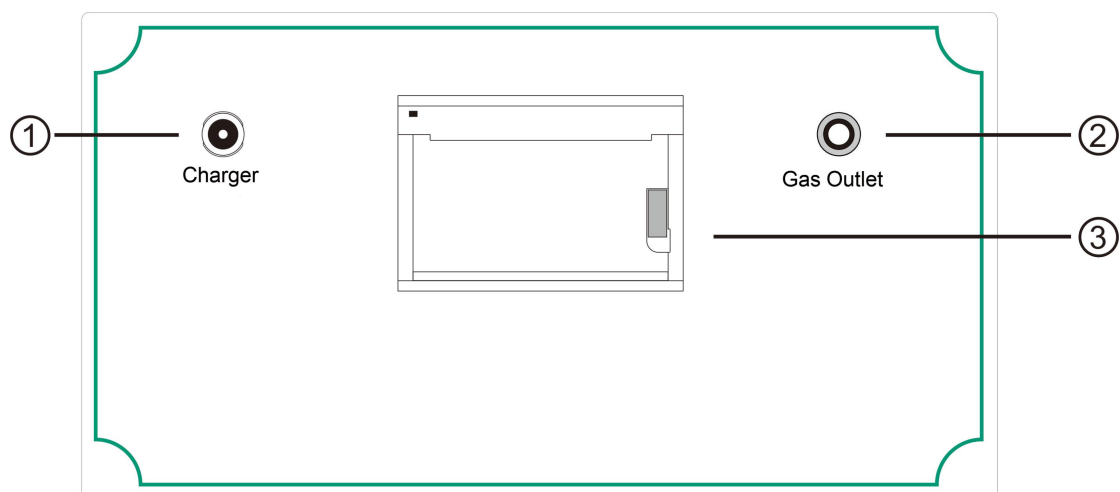

Figure 2 Layout diagram of the back panel
- ①LCD
- ②Flow regulation
- ③Gas inlet
- ④USB port
- ⑤Power
2. The layout diagram of the back panel of the instrument is shown in Figure 2.